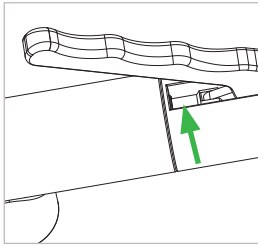

Figure 17
- ▶ Apply a short burst of spray with the aiming tube to the actuator peg (Pos. 3) (*Figure 17*).